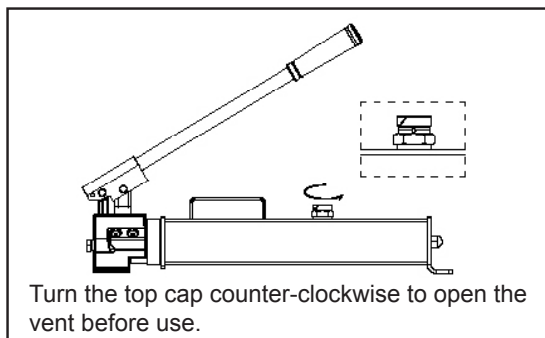

Figure 2
1. Turn the top cap of the vent screw counter-clockwise to open the vent. Turn the cap clockwise to close the vent screw when moving or storage. (refer to Figure 2)